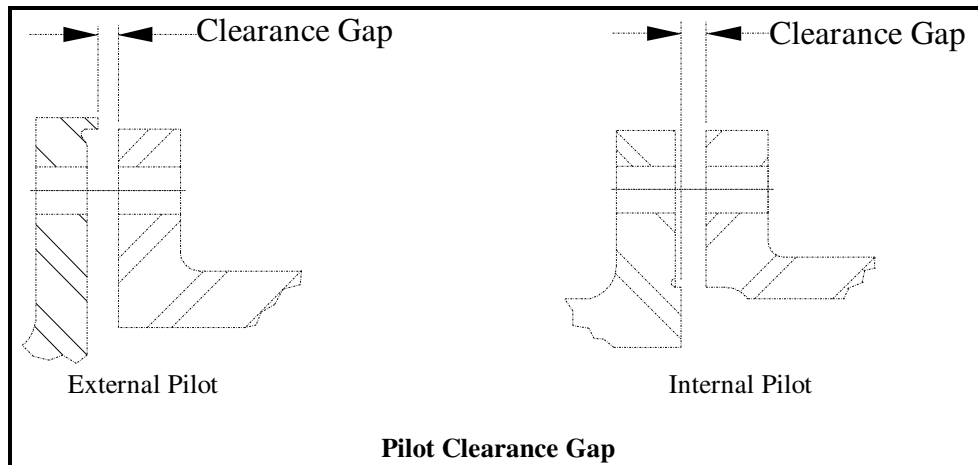

Figure 4-11
- 4.7.1.2 Remove the spacer flange bolts at one end of the spacer. Support the spacer and, using the tapped jacking holes provided, disengage the pilot at that end to obtain a clearance of .005 - .010 IN. (.127 - .254 mm) between the spacer and the splined adapter pilots (see Figure 4-11).
4.7.2.2 Remove the spacer flange bolts at one end of the spacer. Support the spacer and using the tapped jacking holes provided, disengage the pilot at that end to obtain a clearance of .005 - .010 IN (.127 - .254 mm) between the spacer and the pack adapter pilots (see Figure 4-11).
- 4.7.3.4 Using the tapped jacking holes provided in the flanges, disengage the spacer ring to flange pilots at both ends of the coupling to obtain a clearance of .005 - .010 IN. (.127 - .254 mm) between the spacer ring pilot and the flange at both ends of the coupling (see Figure 4-11).